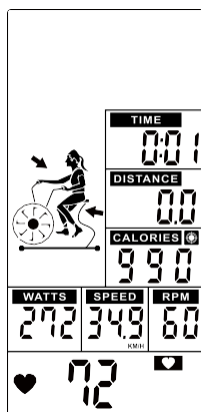

Figure 44
- ③ Preset CALORIES value counts down, TIME, DISTANCE, WATTS, SPEED & RPM start to count up. (Figure 44)
- ④ Press START button once enter into PAUSE mode. Buzzer will sound for 0.5s per second within 30s. All values are displaying on LCD and flashing in every 2s. If continue to stop training for 5 minutes, buzzer sounds 2s and enter to Wake-up mode. Press START to resume workout.
- ⑤ No signal input for 30s, buzzer sounds 1s and enter to Wake-up mode.